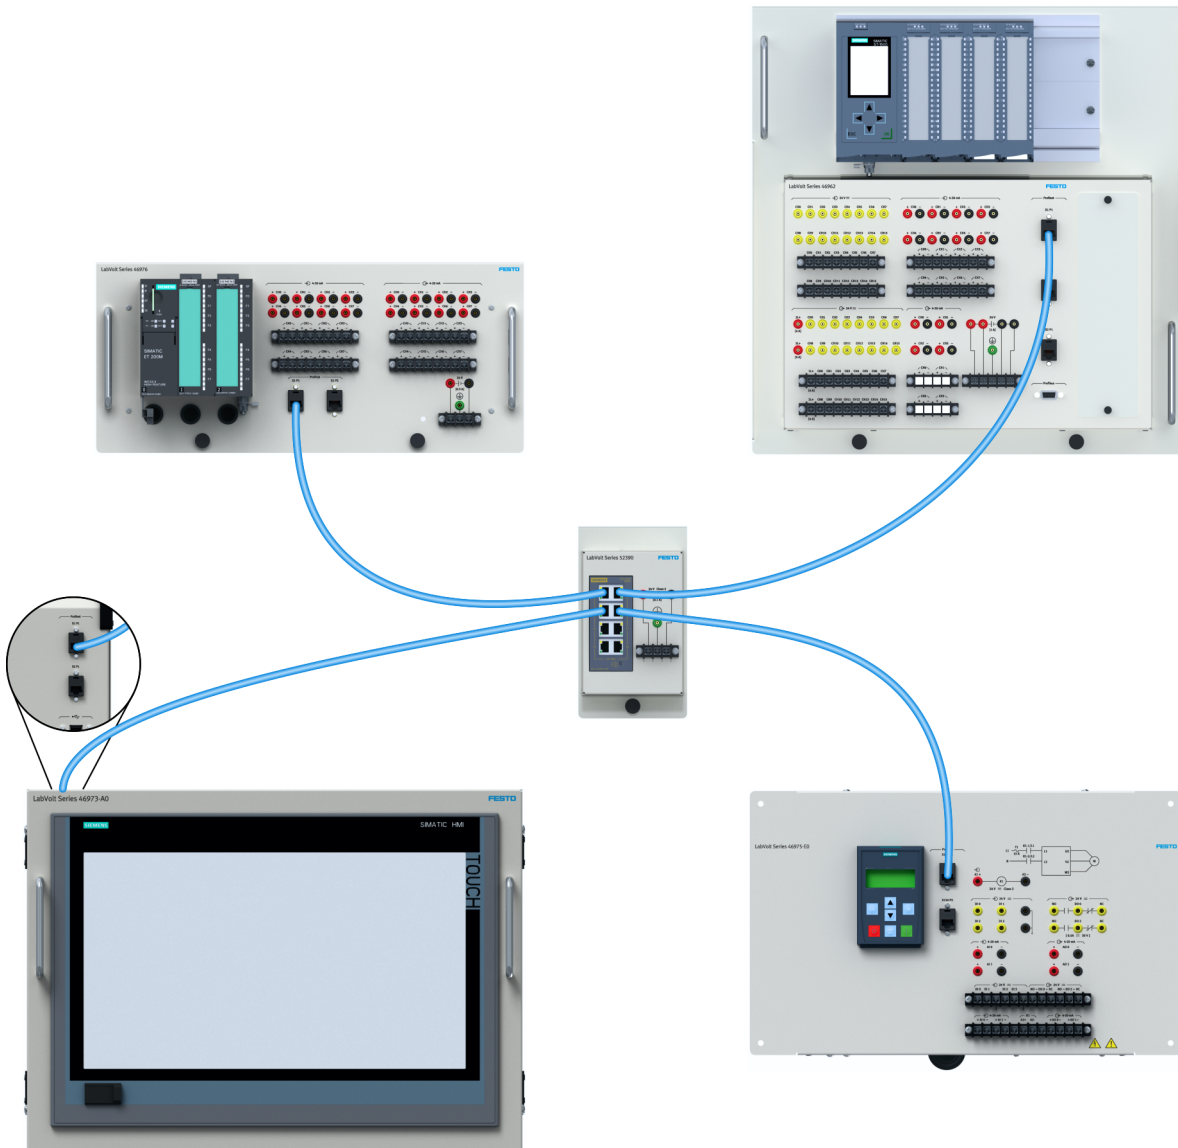

Figure 44. PROFINET network setup.
3. Once all Siemens equipment is powered, connect each device to the Ethernet switch as shown in Figure 44.